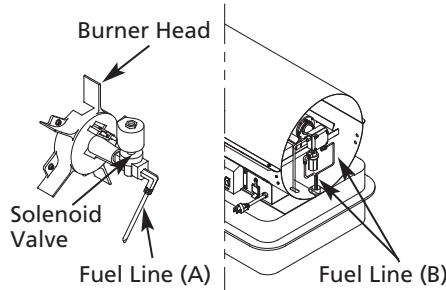

Figure 16 – Tighten Fuel Line
- Use 1/4" wrench and tighten fuel line (A) at solenoid valve and at pump (See Figure 16).